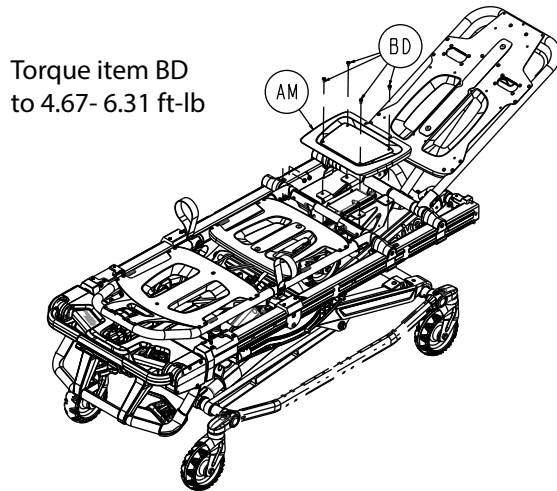

Figure 51 – Remove the seat skin screws
5. Using a T25 Torx driver, remove the four pan head thread rolling screws (BD) that secure the seat skin (AM) to the cot (Figure 51). Remove and save the seat skin. Save the screws.